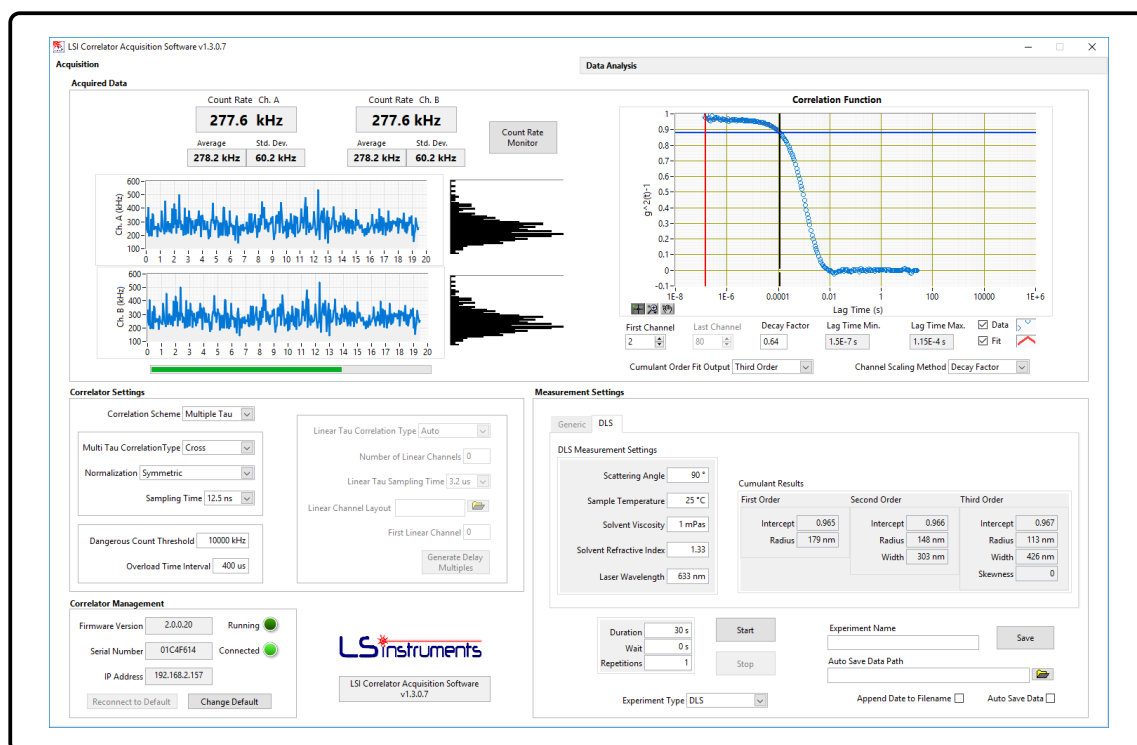

Figure 4.4: Acquisition tab of the LSI Correlator Acquisition Software user interface.
This section explains in detail the structure and functionality of the *LSI Correlator Acquisition Software* provided with the device. The graphical user interface is organized into two separate tabs. The Acquisition tab, shown in Fig. 4.4, allows the user to configure the correlator and to perform data acquisition, while data analysis is performed in the Data Analysis tab shown in Fig. 4.6. Parameter settings as well as starting and measurement procedures are described below.
Once the *LSI Correlator Acquisition Software* is started, information about the correlator status is displayed in the bottom-left section (“*Correlator Management*”) of the main software panel shown in Fig. 4.4. Further configuration can be accessed through “*Change Default*” button contained within.. This button allows for the change of the correlator configured by default in case the user wants to acquire data from another correlator.
The acquisition tab shown in Fig. 4.4 is organized in 4 different sections described below.
- `LSI Correlator obj = LSICorrelator(correlator_IP, Version)`: Open a WebSocket connection with the *LSI Correlator* toward IP address *correlator_IP* and instantiate a correlator object *obj* through which parameters and commands can be accessed. *Version* is a string of the current firmware version (the latter can be found by starting and configuring the *LSI Correlator* Software at the left bottom of the main panel as shown in Fig. 4.4)